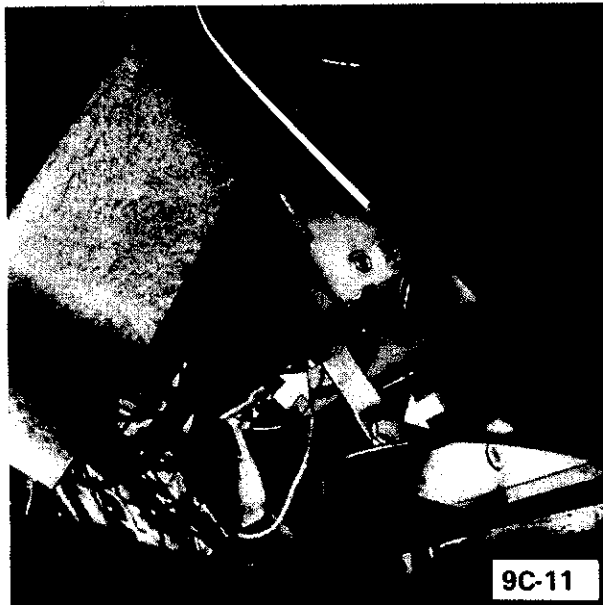

Figure 9C-16 Support Bracket
2. Unscrew two (2) hex. nuts behind and remove ornamental cover plate.
3. Unscrew support bracket from back of radio housing and air distribution housing. See Figure 9C-16.